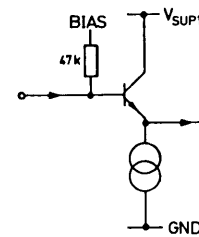

Fig. 4-2:
Pin 8 – Analog (TV) Pilot Input (Fig. 4-2)
Pins 21 and 24 – Analog (Aux) Audio Inputs I and II (Fig. 4-2)